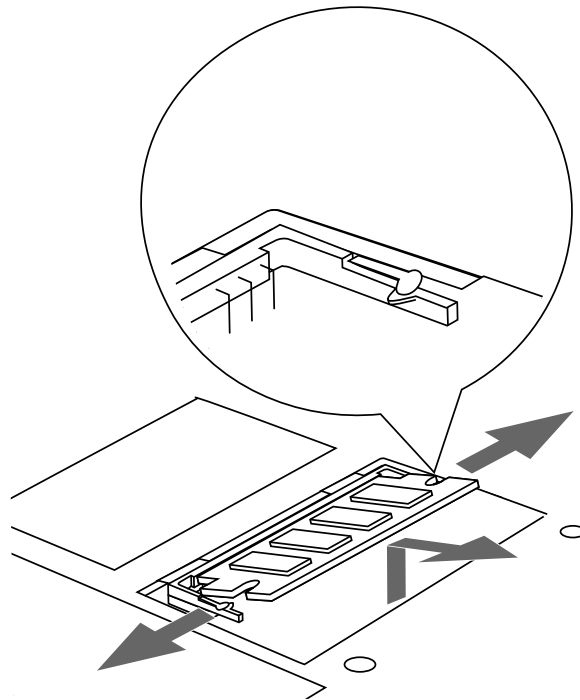

Figure 4-3 Removing a DIMM Card
3. Spread the fingers on the socket that lock the DIMM card in place until the DIMM card is loose. Reference Figure 4-3.